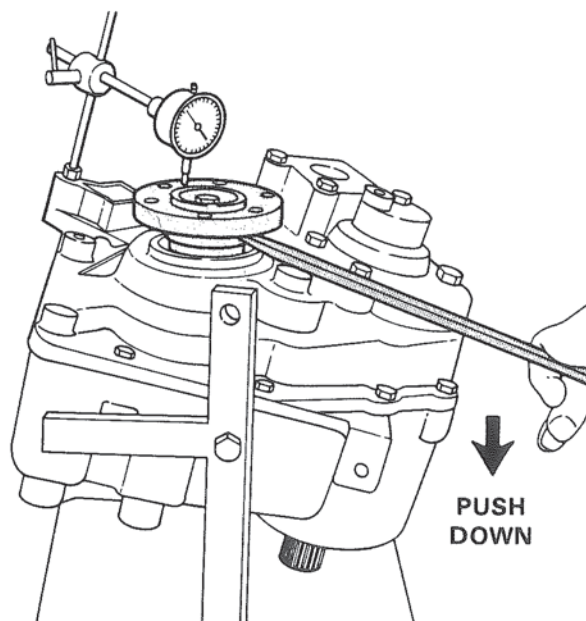

Figure 45. Checking End Play-Output Shaft.
9. Apply a 100-300 lbs. force upward on the flange while rotating the shaft two (2) full turns. Figure 45. Continue the upward force, while reading the dial indicator with the stem stopped on the selected spot. The indicator should now show the actual end play of the bearings.